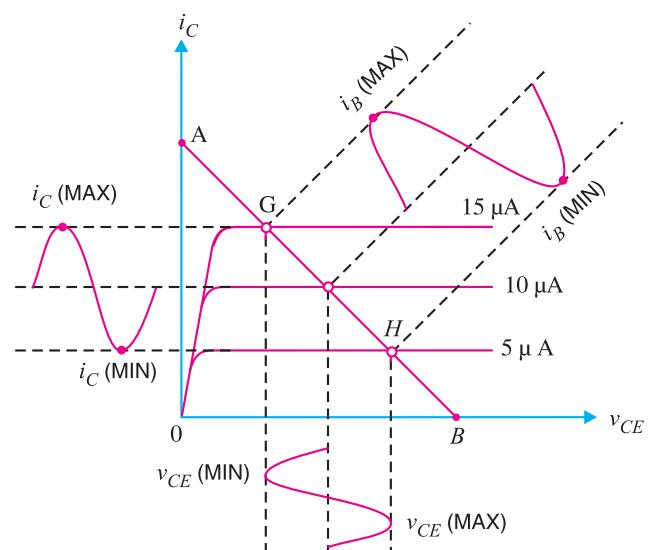

Fig. 10.6
**Graphical demonstration.** The fact of phase reversal in  $CE$  connection can be shown graphically with the help of output characteristics and load line (See Fig. 10.6).
In Fig. 10.6,  $AB$  is the load line. The base current fluctuates between, say  $\pm 5 \mu\text{A}$  with  $10 \mu\text{A}$  as the zero signal base current. From the figure, it is clear that when the base current is maximum in the positive direction,  $v_{CE}$  becomes maximum in the negative direction (point  $G$  in Fig. 10.6). On the other hand, when the base current is maximum in the negative direction,  $v_{CE}$  is maximum in the positive sense (point  $H$  in Fig. 10.6). Thus, the in-